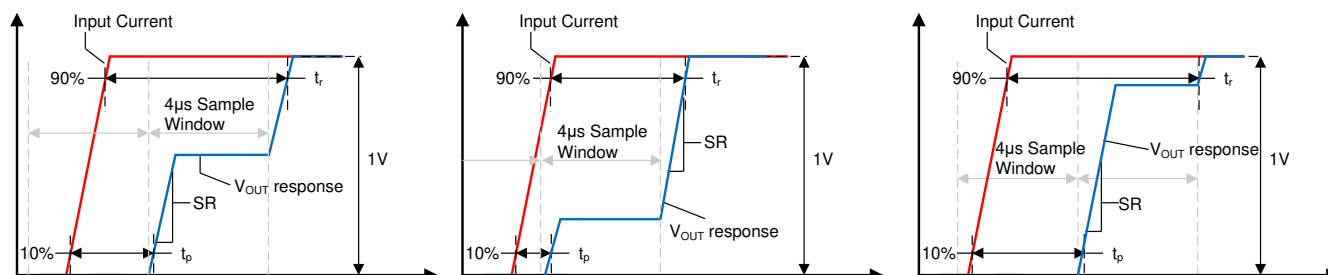

Figure 8-3. Small Current Input Step Transient Response
Slew rate (SR) is defined as the V_{OUT} rate of change for a single integration step's output transition, as shown in Figure 8-3. Because the device often requires two sampling windows to reach a full 90% settling of its final value, this slew rate is not equal to the 10%-90% transition time for the full output swing.
Propagation delay is the time period between the input current waveform reaching 10% of its final value and V_{OUT} reaching 10% of its final value. This propagation delay is heavily dependent upon the alignment of the input current step and the sampling period of the TMCS1108-Q1, as shown for several different sampling window cases in Figure 8-3.
Response time is the time period between the input current reaching 90% of its final value and the output reaching 90% of its final value, for an input current step sufficient to cause a 1-V transition on the output. Figure 8-3 shows the response time of the TMCS1108-Q1 under three different time cases. Unless a step input occurs directly during the beginning of one sampling window the response time will include two sampling intervals.